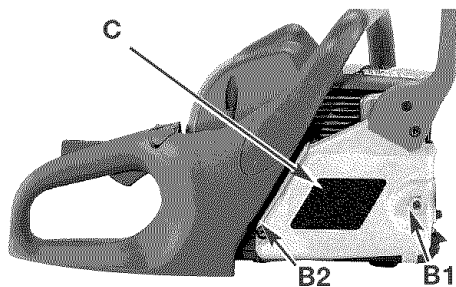

Fig. 18
2. Remove the bar retaining nut (B1) and the screw (B2) at rear of clutch cover (C). Remove clutch cover (C) by pulling straight out, some force may be required. (Fig. 18).